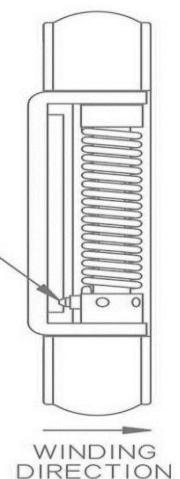

Figure 3
- 4) Using the Adjustment Pin, turn the Adjustment Collar until the Pin contacts the Hinge. Then insert the Stop Pin in hole of Adjustment Collar (Fig. 3). **CAUTION:** The Stop Pin must fully seat on Adjustment Collar. Failure to do so may cause the Stop Pin to become dislodged. Inserting the Adjustment Pin more than halfway thru the Adjustment Collar can cause partial push out of the Stop Pin. Repeat adjustment until desired tension is reached. The maximum tension is 6 holes or approximately 1-1/4 turns.